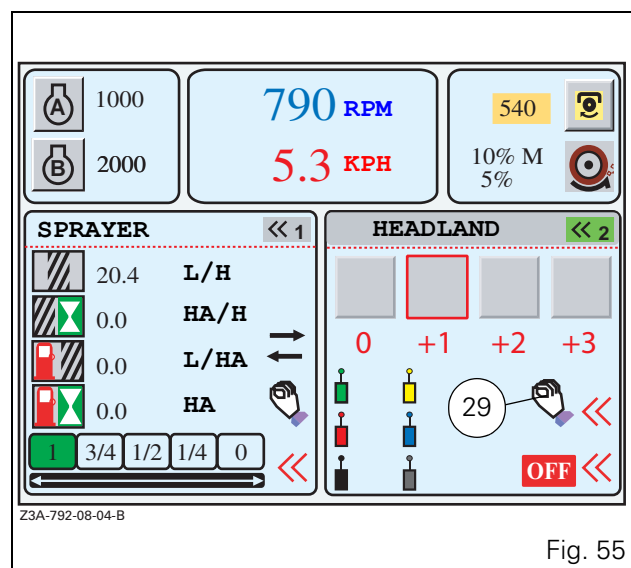

Fig. 55
- Validate by pressing the encoder or the key <<2>. The window (Fig. 55) is displayed.